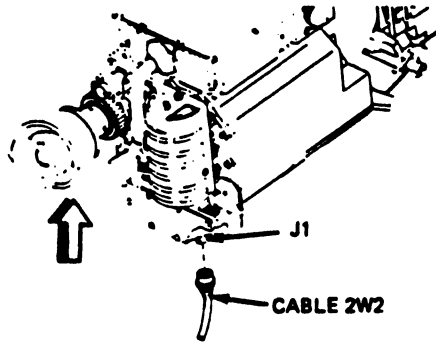

Fig 2-37. Connecting Cable 2W2 to connector J1.
Step 10. Connect Cable 2W2 to the night sight input power connector J1 (fig 2-37).